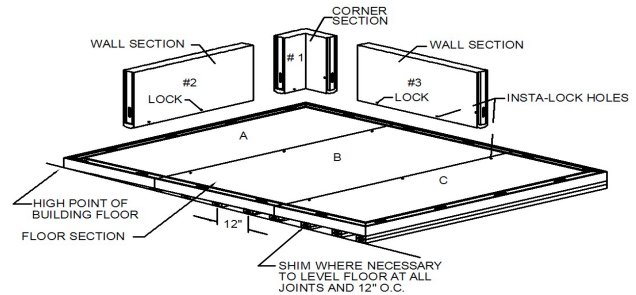

Figure 3 - Floor Leveling
2. The levelness of the walk-in floor is very important. The entire floor area must be leveled from the highest point. If shimming is required to level the floor sections, the shims must extend underneath the entire section, not just at the edges. Shims must be used at the ends and at all floor seams. Shims must not exceed 12" on center (Refer to Figure 3).
- Place corner panel #1 into position and lock it to the floor panel. Place wall panels #2 and #3 into their respective positions. Fully lock the middle camlock and half lock the top and bottom camlocks, making sure the wall panels are aligned and even at the top and bottom. Align the wall panels to the floor panels, ensuring squareness, levelness, and alignment to the floor (Refer to Figure 3). Lock the remaining camlocks, securing the wall panels to each other first and then to the floor panels.